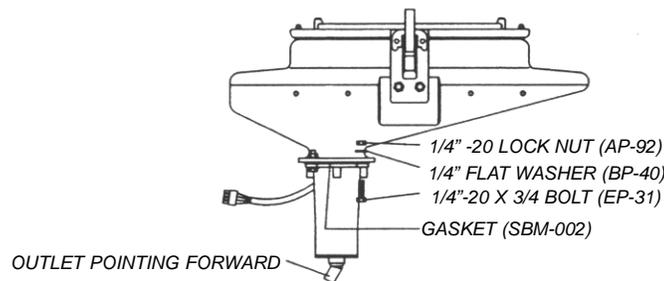

Figure 2
6. Invert the base container and remove the four 1/4" -20x3/4" bolts attaching the meter to the base container as shown in Figure 2. The 1/4" flat washer shown in Figure 2 may have been installed on the meter side of the joint as shown in the original SmartBox® Operator's Manual.
- c. Place the 1/4" x 1" bolts up through the meter, base container flange, and 1/4" flat washer as shown in Figure 2 above. Lightly secure with the lock nuts.